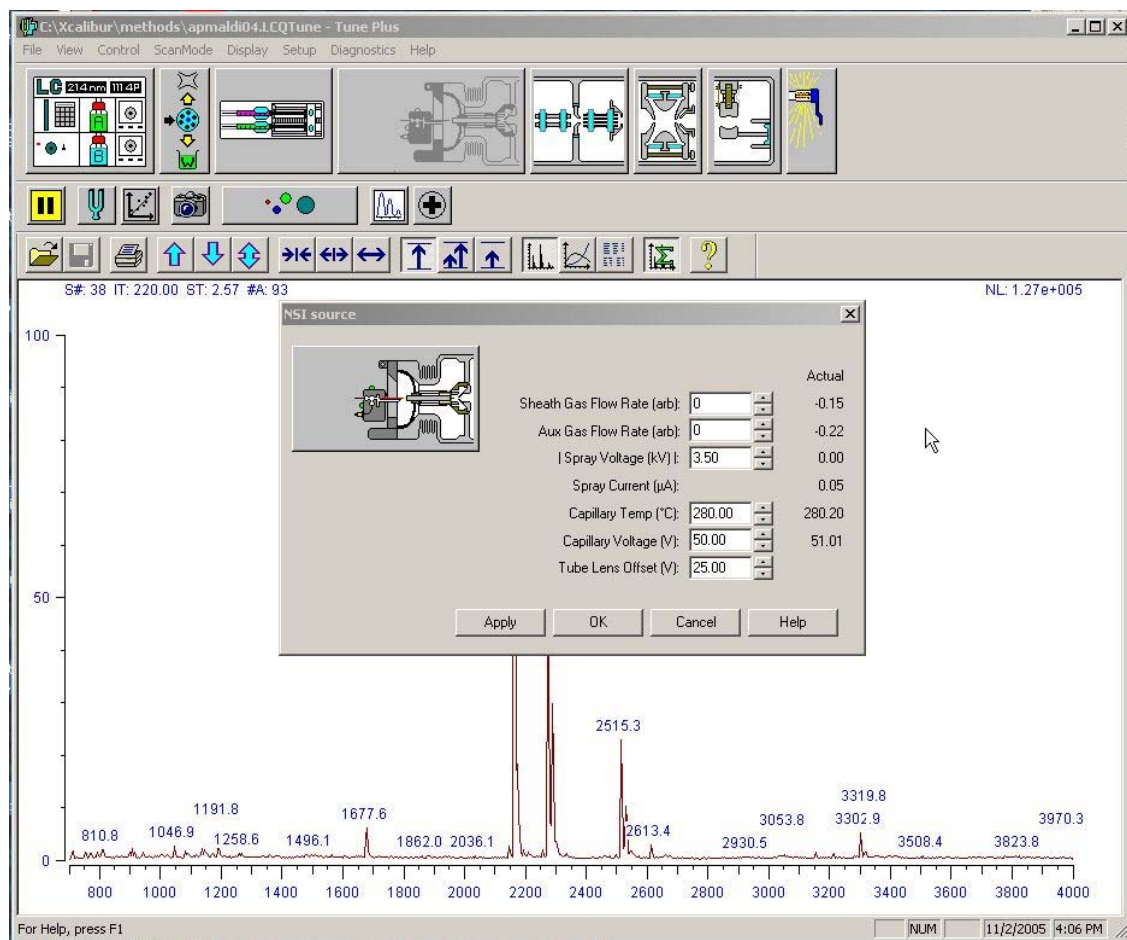

Fig. 7-19 Good parameters for the capillary HV (3-3.5 kV) and Capillary Temperature (200-280⁰ C) in the ion trap are shown above.
- The selection of nanospray (NSI) source enable to switch off Sheath and Aux gas flow off (Fig. 7-19). Generally, AP/MALDI source does not consume any gases. Use Setup -> Change API source Type menu to configure LCQ for NSI.
- **Capillary Temperature settings:** The heated capillary is used to evaporate the clusters formed during the MALDI process. The capillary temperature is typically set to 200°C to 280°C (Fig. 7-19).